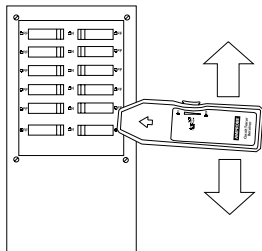

Figure 2
4. At the breaker panel or fuse box, hold the Receiver perpendicular to the breakers. Scan slowly all breakers once to calibrate the Receiver. During this scan, the Receiver may beep and flash at several breakers. This is a normal part of the identification process (Figure 2).